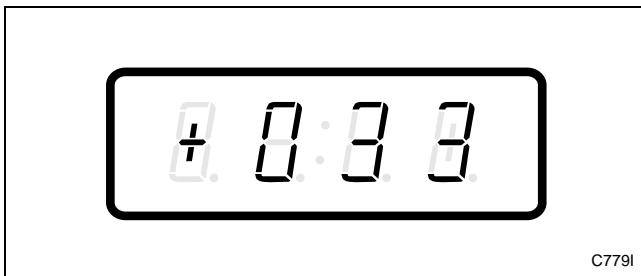

Figure 103
3. Press the DELICATES (+) or the COLD (-) keypad to scroll through the programmable options until “+033” appears in the VFD. Refer to *Figure 103*.